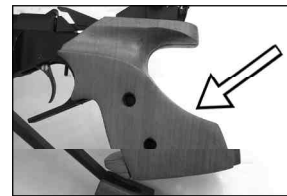

Figure 7
**Grip:** The grip of your air pistol is comprised of two pieces of wood. See **Figure 7**. A loose grip may